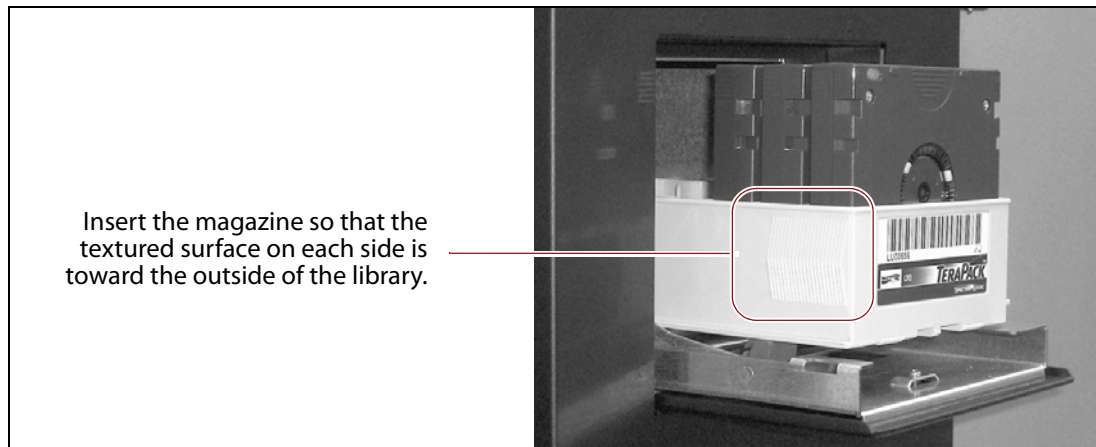

Figure 139 Insert a magazine into the TAP, making sure that it is correctly oriented.
- a. Insert a magazine into the tray on the open TAP, making sure that it is oriented with the textured surface on each side toward the outside of the library, as shown in Figure 139.